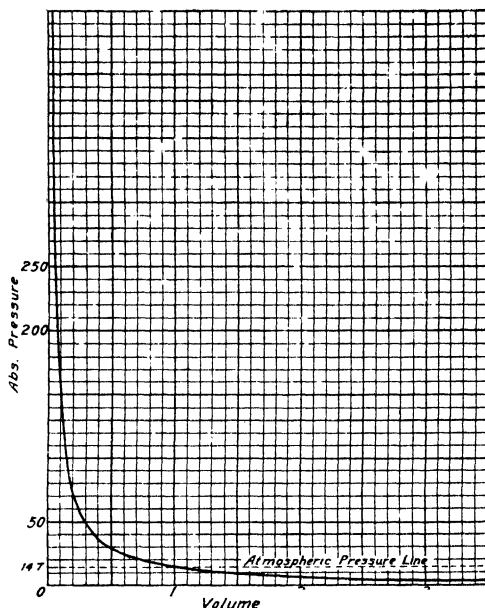

Fig. 7. Curve Showing Relation between Volume and Pressure of Air
*Curve Expressing Boyle's Law Relation.* Fig. 7 expresses the relation between volume and pressure of a given weight of air starting at atmospheric pressure and compressed to a pressure of 500 pounds without change in temperature; also expanded to a pressure of one pound absolute. Horizontal distances represent volumes, the volume at atmospheric pressure being unity; and vertical distances represent absolute pressures. To find the pressure of the air for any volume greater or less than one, locate the given volume on the base line, then, from this point, read up to the curve and find the desired pressure by moving horizontally from the curve to the scale at the left.